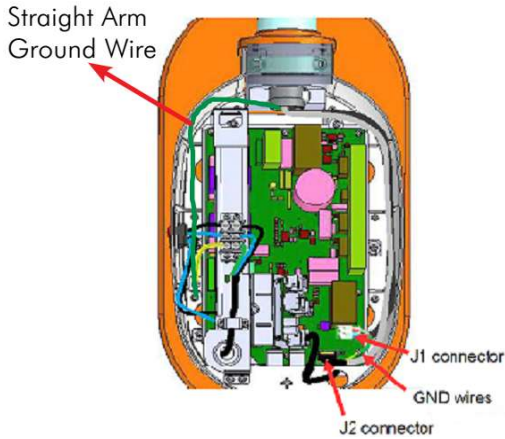

Figure 31
- Route the cables on the right side of the base unit as shown in Figure 31.
- Connect the communication cable connector coming from scissor-arm to the J2 connector on the power board as shown in Figure 31.
- Connect the wires of the inverter cable(Non-polarised) to the J1 connector using jewel screw driver as shown in Figure 31.
- Connect the GND wires at the screw location available at the right bottom screw and fix the cables on the cable mount which is available in base unit using cable ties as shown in Figure 31.